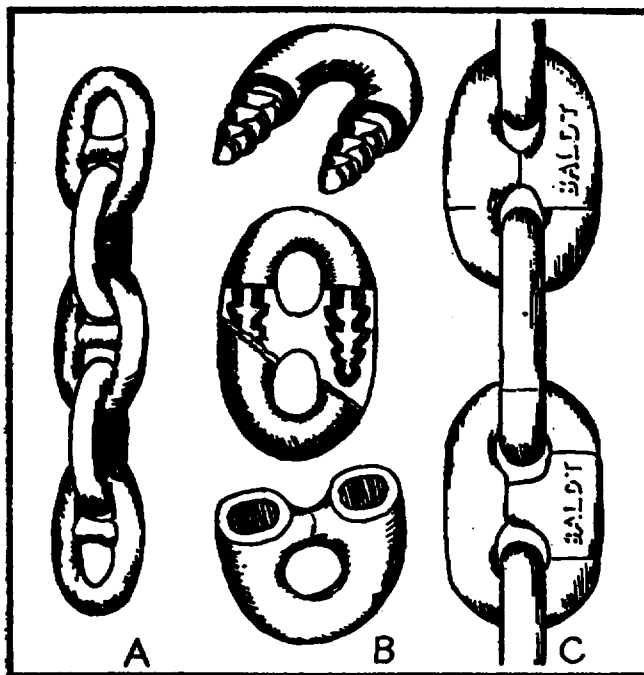
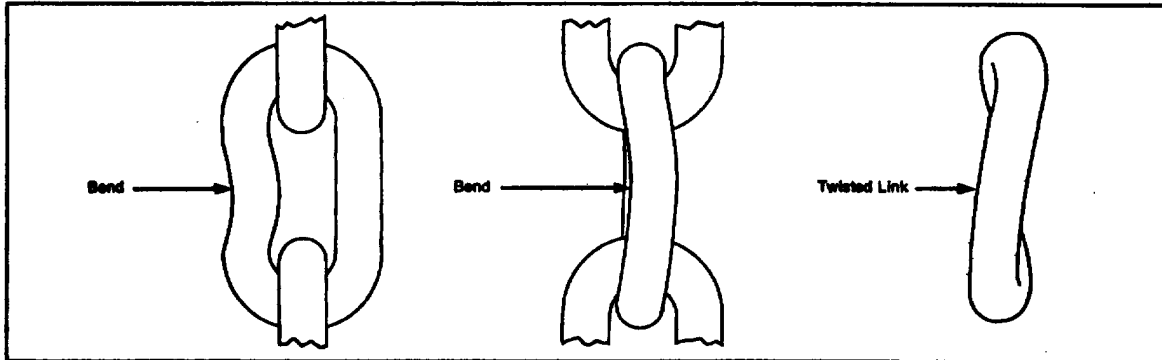

Fig. 2-23 A) STUD-LINK CHAIN. B) DI-LOK LINK BEFORE AND AFTER JOINING. C) DI-LOK CHAIN JOINED WITH DETACHABLE LINK.
Fig. 2-24 Deformed chain links
- 1 General. Aids to Navigation vessels use open link and stud link chain. Alloy, sling and tie-down chains are also open link. Open link chain is any chain that does not have an obstruction through the link (See **Figure 2-23**). The major differences between buoy chain and alloy chain are the steel and the shape of the links. Buoy chain is made from carbon steel grade 1010 or better (basically a low cost bendable steel). Alloy chain is made from alloy steels, usually 4600 or 8600 grades. These have much higher breaking strengths than carbon steels. The carbon steels are used for buoy chain because the strength is adequate for mooring buoys and because of its low cost. Buoy chain shall not be used in slings or to secure deck loads.
- a A stud link chain can be of two different styles; stud link or die lock (See **Figure 2-23**). Stud link chain, because it has a higher breaking strength than buoy chain, is also used for mooring Large Navigational Buoys. Open link chain can deform or stretch when under heavy strain, as in breaking out an anchor or sinker. The open link chain will deform into a shape known as a peanut (See **Figure 2-24**). If a peanut-shaped link were hauled into a wildcat, it would not fit. The stud in stud link type chain prevents this peanut shape by keeping the barrels a given distance apart. Stud link chains fail without deforming a significant amount. Stud link chains are made of alloy steels usually grade 8600 or better. Use stud link chain for anchoring or mooring chains, where they will be lifted using a wildcat.
- d Integral stud link chain is made by forging one end of the bar stock over nearly 90 degrees, then bending the rest of the stock around this stud to form a link (See **Figure 2-23**). In this way the stud is part of the link itself and will not fall out.
- 4. Die Lock Chain. Die lock chain is made entirely by forging; there is no welding involved. It was developed by the U. S. Navy to be a chain in which the stud could never fall out. The chain is made from two pieces of bar (See **Figure 2-23**). The larger of the pieces is forged into a U shape. It is forged again to create tapered holes in each end and the excess material is shaped into a stud. The shorter bar is also forged into a U shape and then forged so its ends are tapered to mate with the first piece. The two U shapes are brought together and forged making the female section grasp the male.